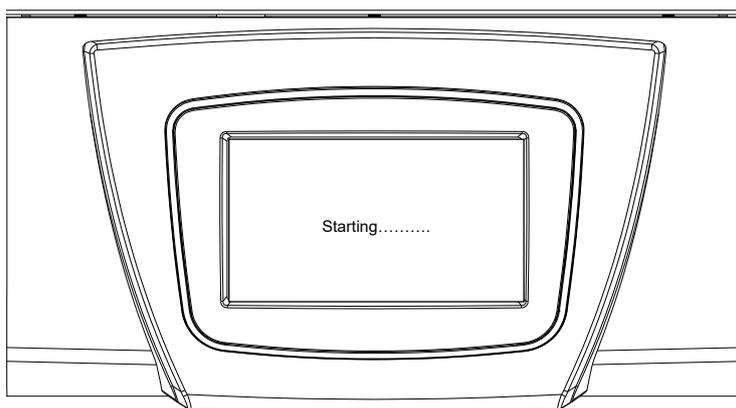
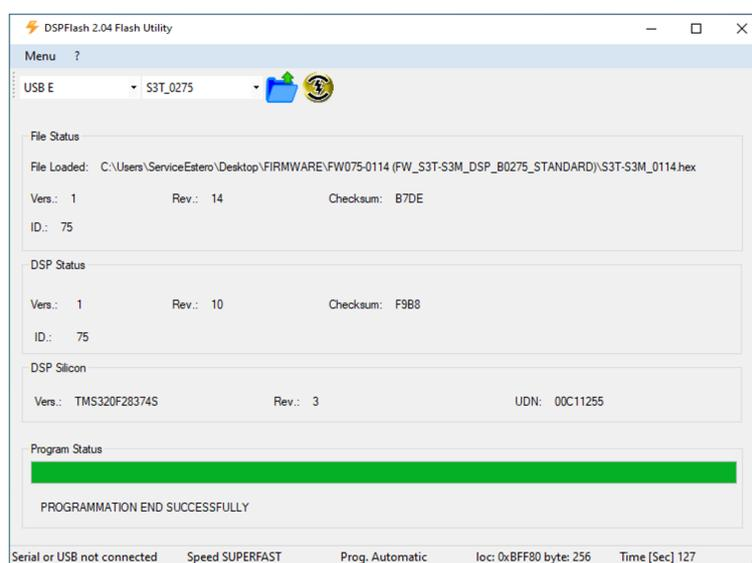

Figure 9
Figure 10
e) With the USB cable inserted, start the DSP upgrade clicking on . A message will inform you to turn OFF and ON the UPS **before** to click on “yes” (Figure 9). Therefore, open the SWIN, wait the display turn off and then close the SWIN. The UPS will display “Starting” (Figure 10). Finally click on “yes”.